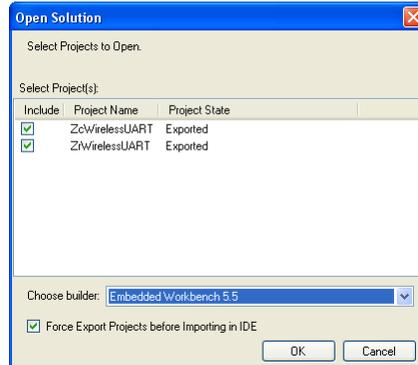

Figure 5-15. Export BeeKit Project Solution Window
1. From the BeeKit main window menu bar, choose Solution -> Export and Open Solution in Embedded Workbench. Before exporting, BeeKit verifies the internal consistency of the configuration and looks for errors such as two endpoints with the same number. If verification succeeds, the window that appears displays the created solution and the IDE that will be used for building as shown in Figure 5-15.